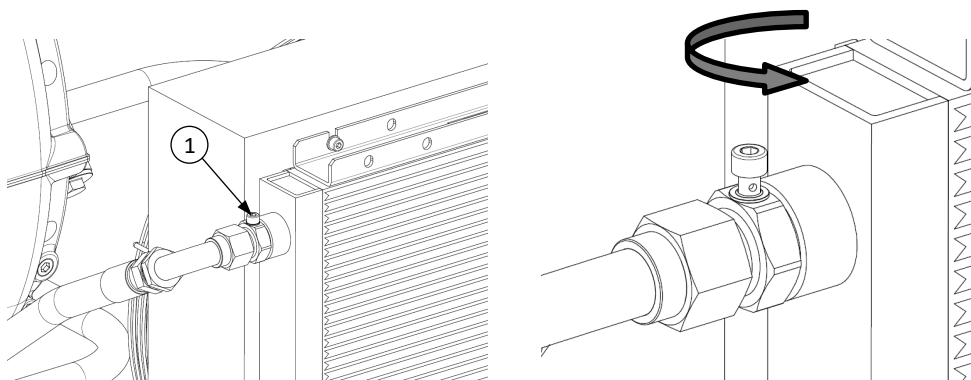

fig.17
-  If no pressure is detected at pressure gauge pos. b after that time, proceed by bleeding air from the circuit by opening the vent screw on the exchanger flow line connection (pos.1 fig. 17)